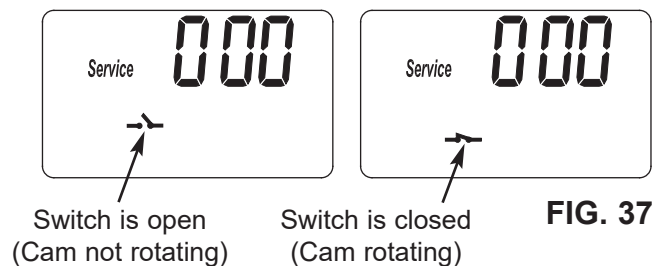

FIG. 37
3. Symbols in the display indicate POSITION switch operation (See Figure 37).